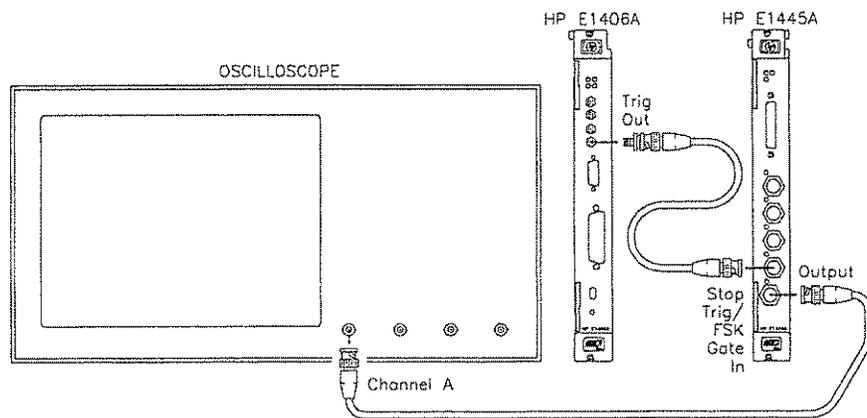

Figure 2-3. Gate In Test Setup
2. Set up the equipment as shown in Figure 2-3.